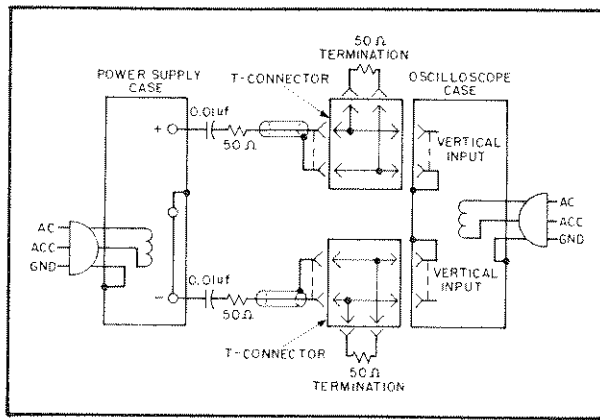

Figure 5-7. Noise Spike Test Setup
- As shown in Figure 5-7, two coax
5-34 The circuit of Figure 5-7 can also be used for the normal measurement of low frequency ripple and noise; simply remove the four terminating resistors and the blocking capacitors and substitute a higher gain vertical plug-in in place of the wide-band plug-in required for spike measurements. Notice that with these changes, Figure 5-7 becomes a two-cable version of Figure 5-6C.